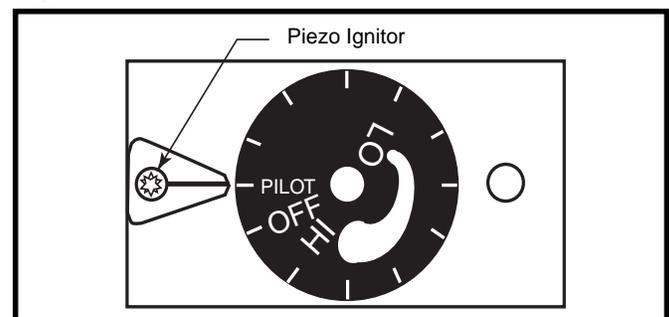

Fig. 23 UVS27M/ SIT Control Valve in Pilot position.
5. **SIT (Manual Valve):** Turn control knob counterclockwise  to "PILOT". Push in control knob all the way and hold in. Immediately light the pilot by pushing the ignitor button located to the left. Continue to hold the control knob in for about one (1) minute after pilot is lit. Release knob and it will pop back up. Pilot should remain lit. If it goes out, repeat steps 3 through 5. (Fig. 23)